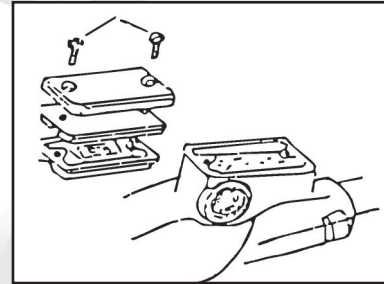

Fig. 4
- the pads should be replaced. *See Fig. 4.*